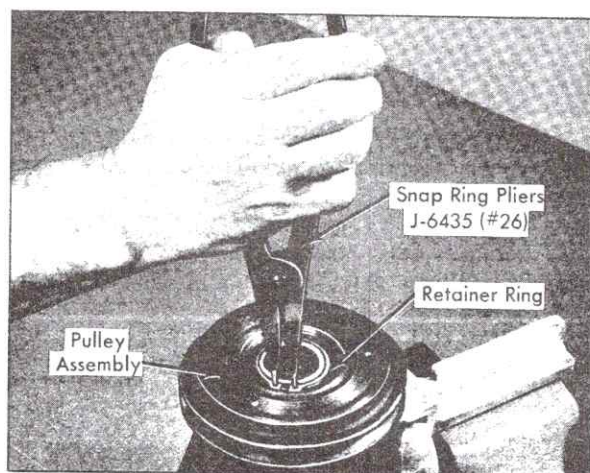

Fig. 1-34 Removing Pulley Retainer Ring
2. Remove pulley retainer ring using Snap Ring Pliers, J-6435 (#26), Fig. 1-34.